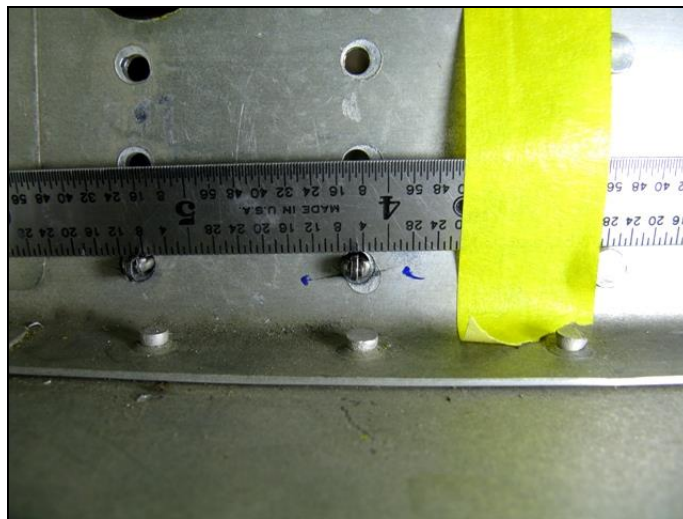

FIGURE 6: PHOTOGRAPHING THE
Step 11: Tape a small scale/ruler adjacent to any rivet holes that have associated cracks (clecos in two holes can be used to help brace and align the ruler), then, using a digital camera, shoot a close-up photo of the cracks and the ruler. See Figure 6.